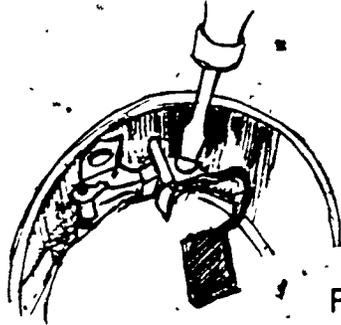

FIGURE 3
4. Remove the generator brushes (Figure 3)